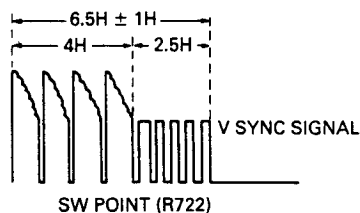

Figure 52.
4. Selecting (+) sync slope with the oscilloscope, adjust R722 to meet the requirements given in Figure 52.